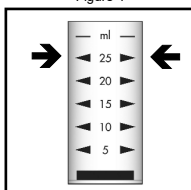

Figure 2
2. Fill the sample cup to the 25 mL mark with the sample to be tested (fig. 2). Stir to mix the contents of the cup.